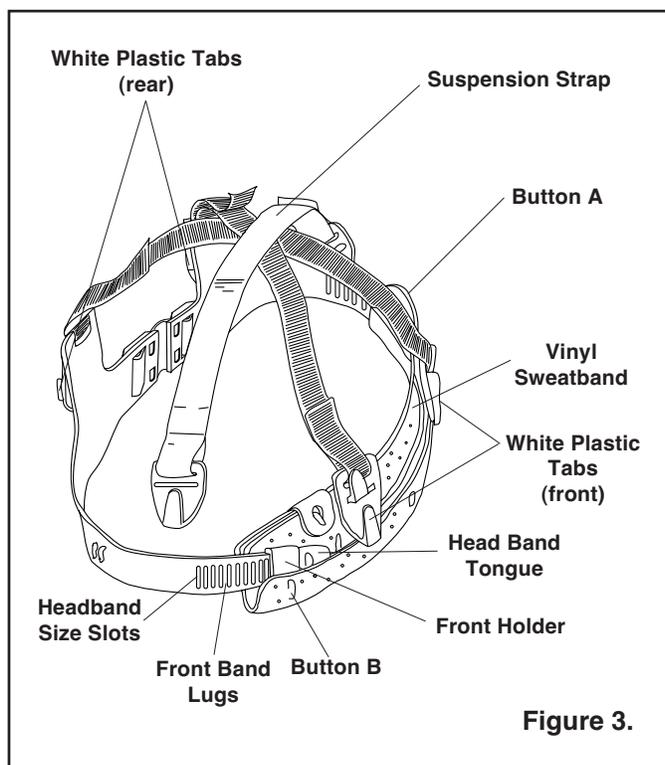

Figure 3.
6.1 Helmet Suspension Adjustment and Replacement, Figure 3.
6.1.3 Unfasten the vinyl sweatband from the two lower, outside buttons (A and B in Figure 3).